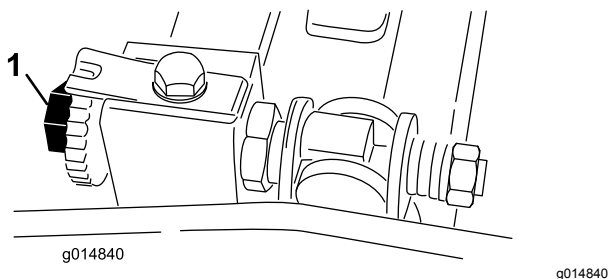

Figure 52
3. Rotate the reel so that a blade crosses the bedknife edge between the first and second bedknife screw heads on the right side of the cutting unit (Figure 52).
6. Turn the right bedbar-adjusting screw until you feel light pressure (i.e., drag) on the shim by sliding it side-to-side (Figure 52).